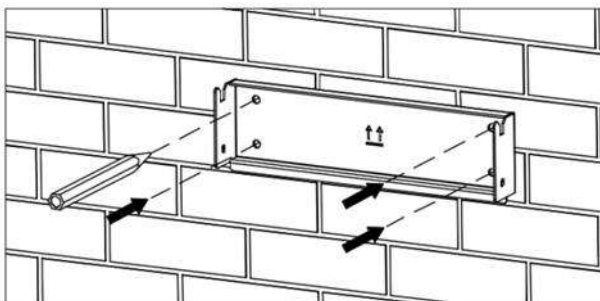

Figure 4.6 Determine the punch position
- (1) Use the punch positioning plate in the packaging box to determine the punch position. As shown in Figure 4.6. Level the holes with a level ruler and mark it with a marking pen.